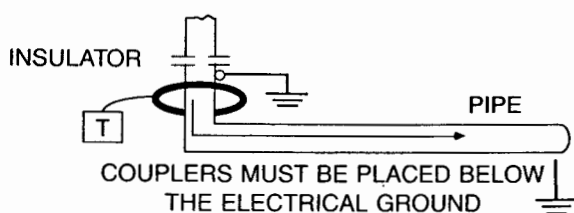

Figure 4-2: Inductive Coupling with the Metroclamp
2. Place the Metroclamp around the conductor, below the electrical ground (see Figure 4-2). Make sure that the clamp jaws are fully closed.